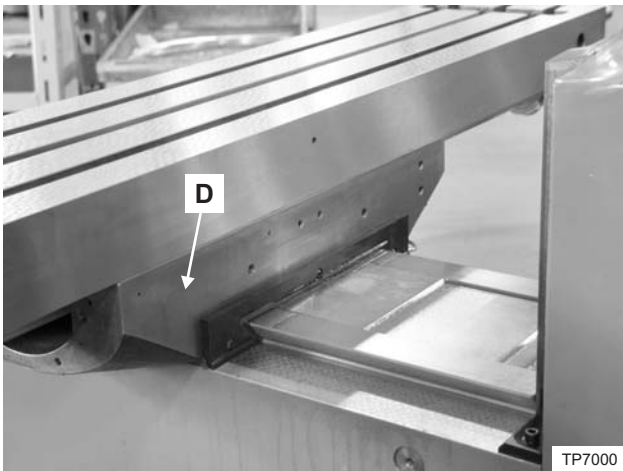
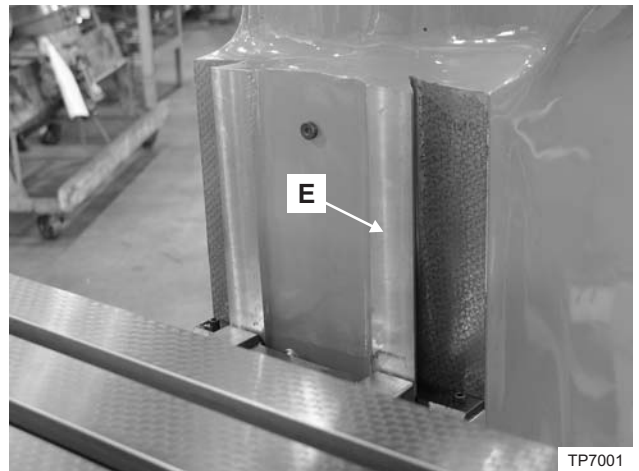

Figure 4.17 - Rear View of the Saddle
Figure 4.18 - Vertical Dovetail on the Column
2. Move the Y axis to position rear saddle surface "D", Figure 4.17, approximately four inches [100 millimeters] from column dovetail surface "E", Figure 4.18.